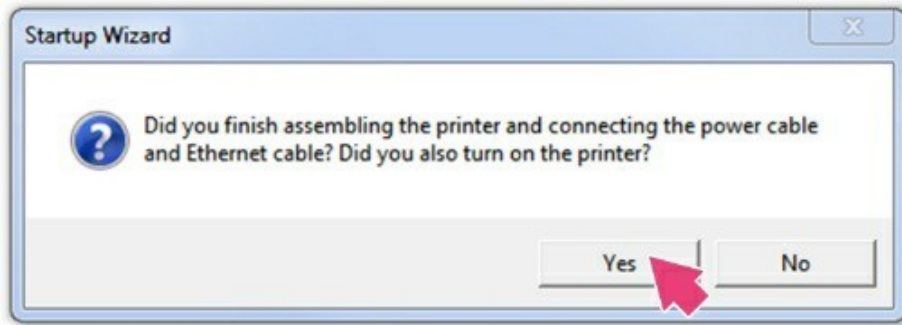

Figure 17
4. Confirm that the printer is connected and turned on; then select **Yes**. See Figure 17.